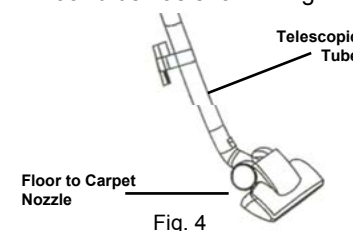

Fig. 4
- Push the telescopic tube into the floor brush as show in Fig. 4.